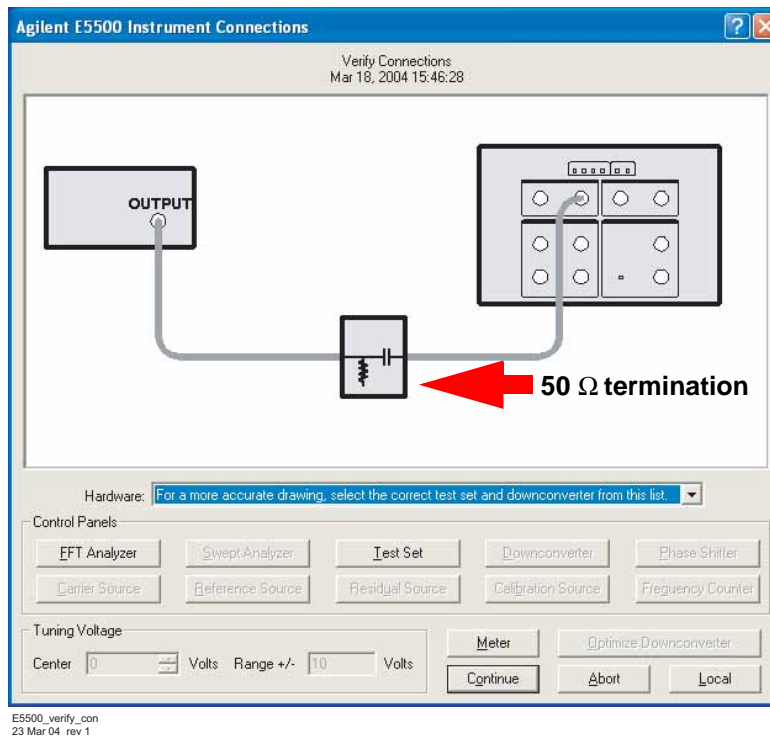

Figure 10 Setup diagram displayed during the confidence test.
- 3 When the **Connect Diagram** dialog box appears, connect the 50 Ω termination, provided with your system, to the test set's noise input connector. (Refer to Figure 10 on page 43 for more information about the correct placement of the 50 Ω termination.)